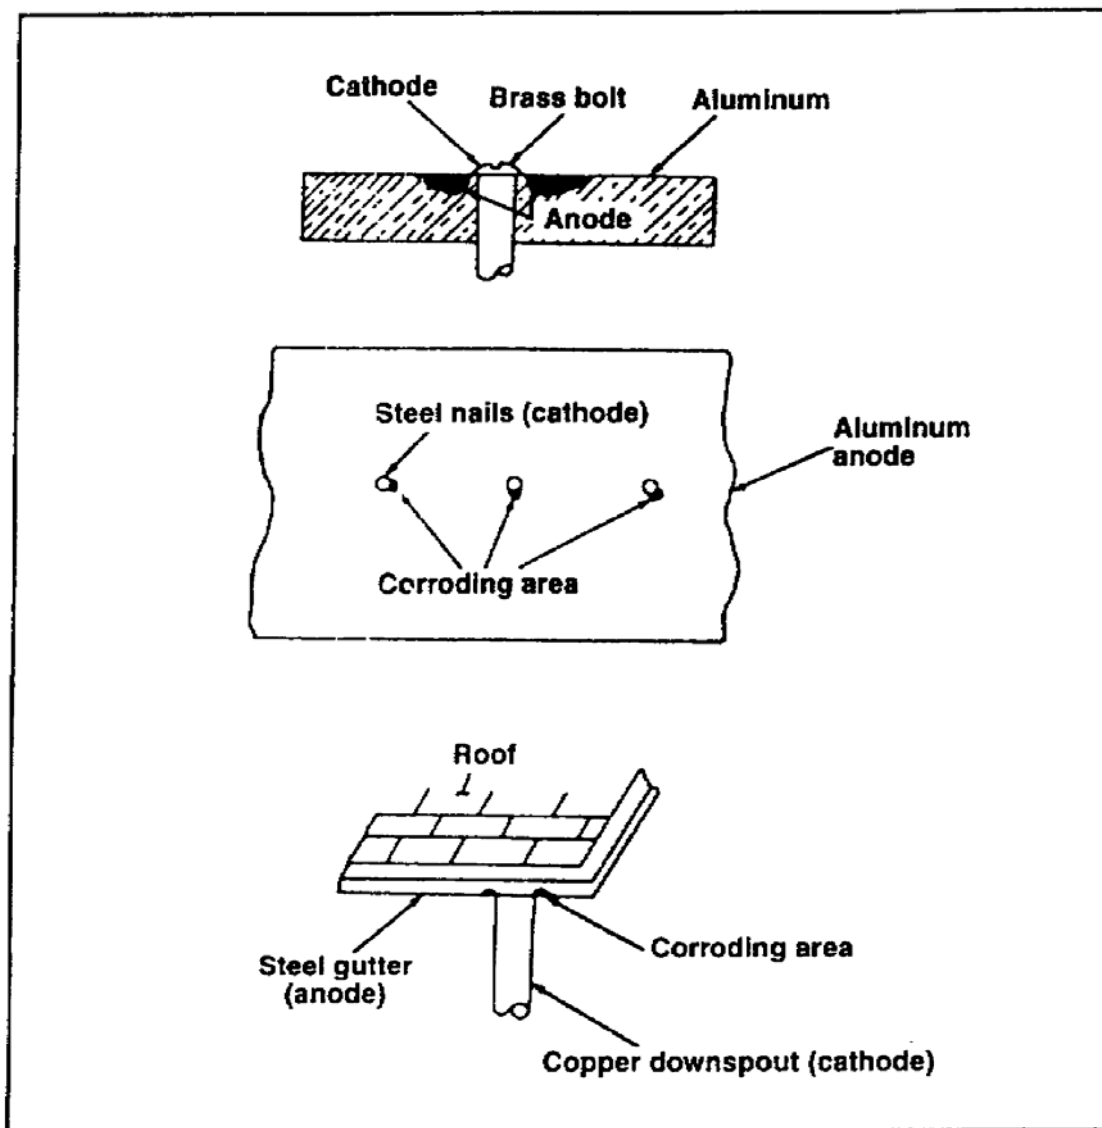

Figure 5-6. Galvanic corrosion
(1) This corrosion type is a complete corrosion class that involves an electrochemical action between two metals or between different areas of the same metal having different heat treatments or other metallurgical differences. Galvanic corrosion occurs when dissimilar metals are in contact and the presence of moisture provides an external circuit (electrolyte). One recognizable feature of galvanic corrosion is the presence of corrosion buildup at a joint between metals. For example, aluminum and magnesium skins that are riveted together in an aircraft wing form a galvanic couple if moisture and contamination are present.
(2) When aluminum pieces are attached with steel fasteners or screws, galvanic corrosion (Figure 5-6) can occur between the aluminum and steel. Table 5-1, page 5-6, is a